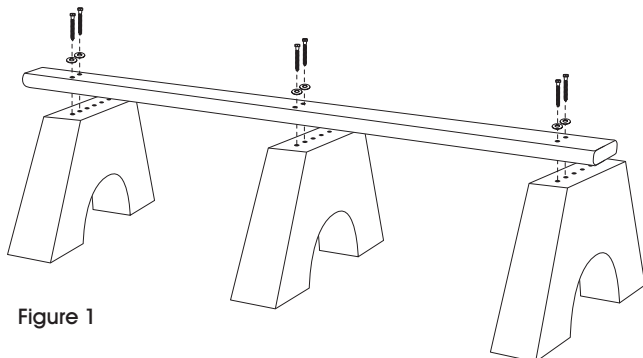

Figure 1
4. Loosely attach bench slat to the bench bases with the 3 1/2" lag screws and washers using the power drill and 7/16" socket bit (will tighten later in step 6). (See Figure 1)